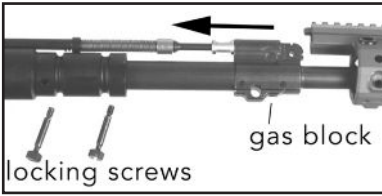

Fig. 72 – Sliding the MRS onto the barrel
1. With the locking screw(s) removed, slide the handguard over the barrel until it engages the barrel nut. Be sure no mechanical sights are installed on the gas block to interfere with sliding the MRS into position (Fig. 72, 73).